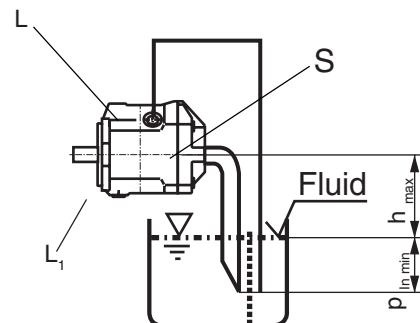

Fig. 4
b) If the minimum fluid level is below the top of the pump, pipe ports "L", "L1" and possibly "S" as fig. 4. The conditions correspond to item 1.2.1.
a) When mounting above the tank, see fig. 4. Conditions correspond to 1.2.1.